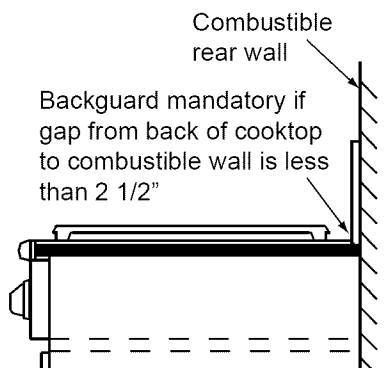

FIGURE 2
- Installation of a non-combustible material* (up to the hood) or a backsplash is always recommended, and mandatory if the distance to the back wall from the cooktop is less than 2 1/2" (Figure 2). When installing a backguard, use only Dacor model numbers AEB3609, AEB3612 (EG366), AEB4809 or AEB4812 (EG486).